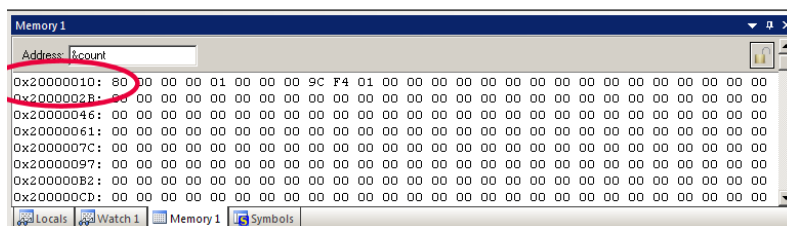

Figure 11: Memory Window
2. Enter count in the space provided. The program can be running. See Figure 11.